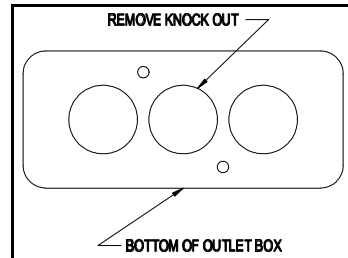
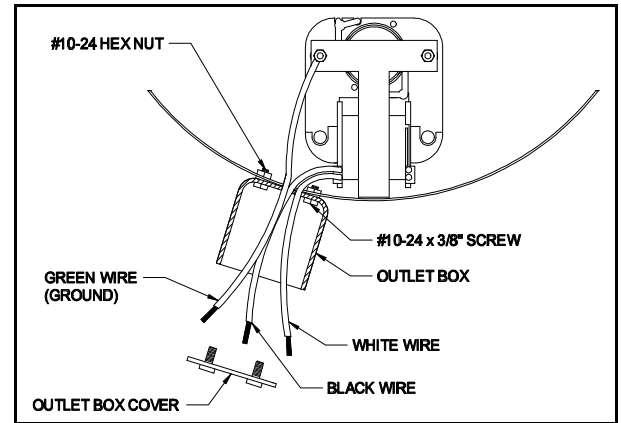

Figure 2A
Figure 2B
4. Remove center knockout from the installer supplied outlet box bottom. (See Figure 2A) Before installing Air Booster into the duct pipe, fasten the outlet box onto the base plate with the #10-32 UNF screws and nuts provided. (See Figure 2B)